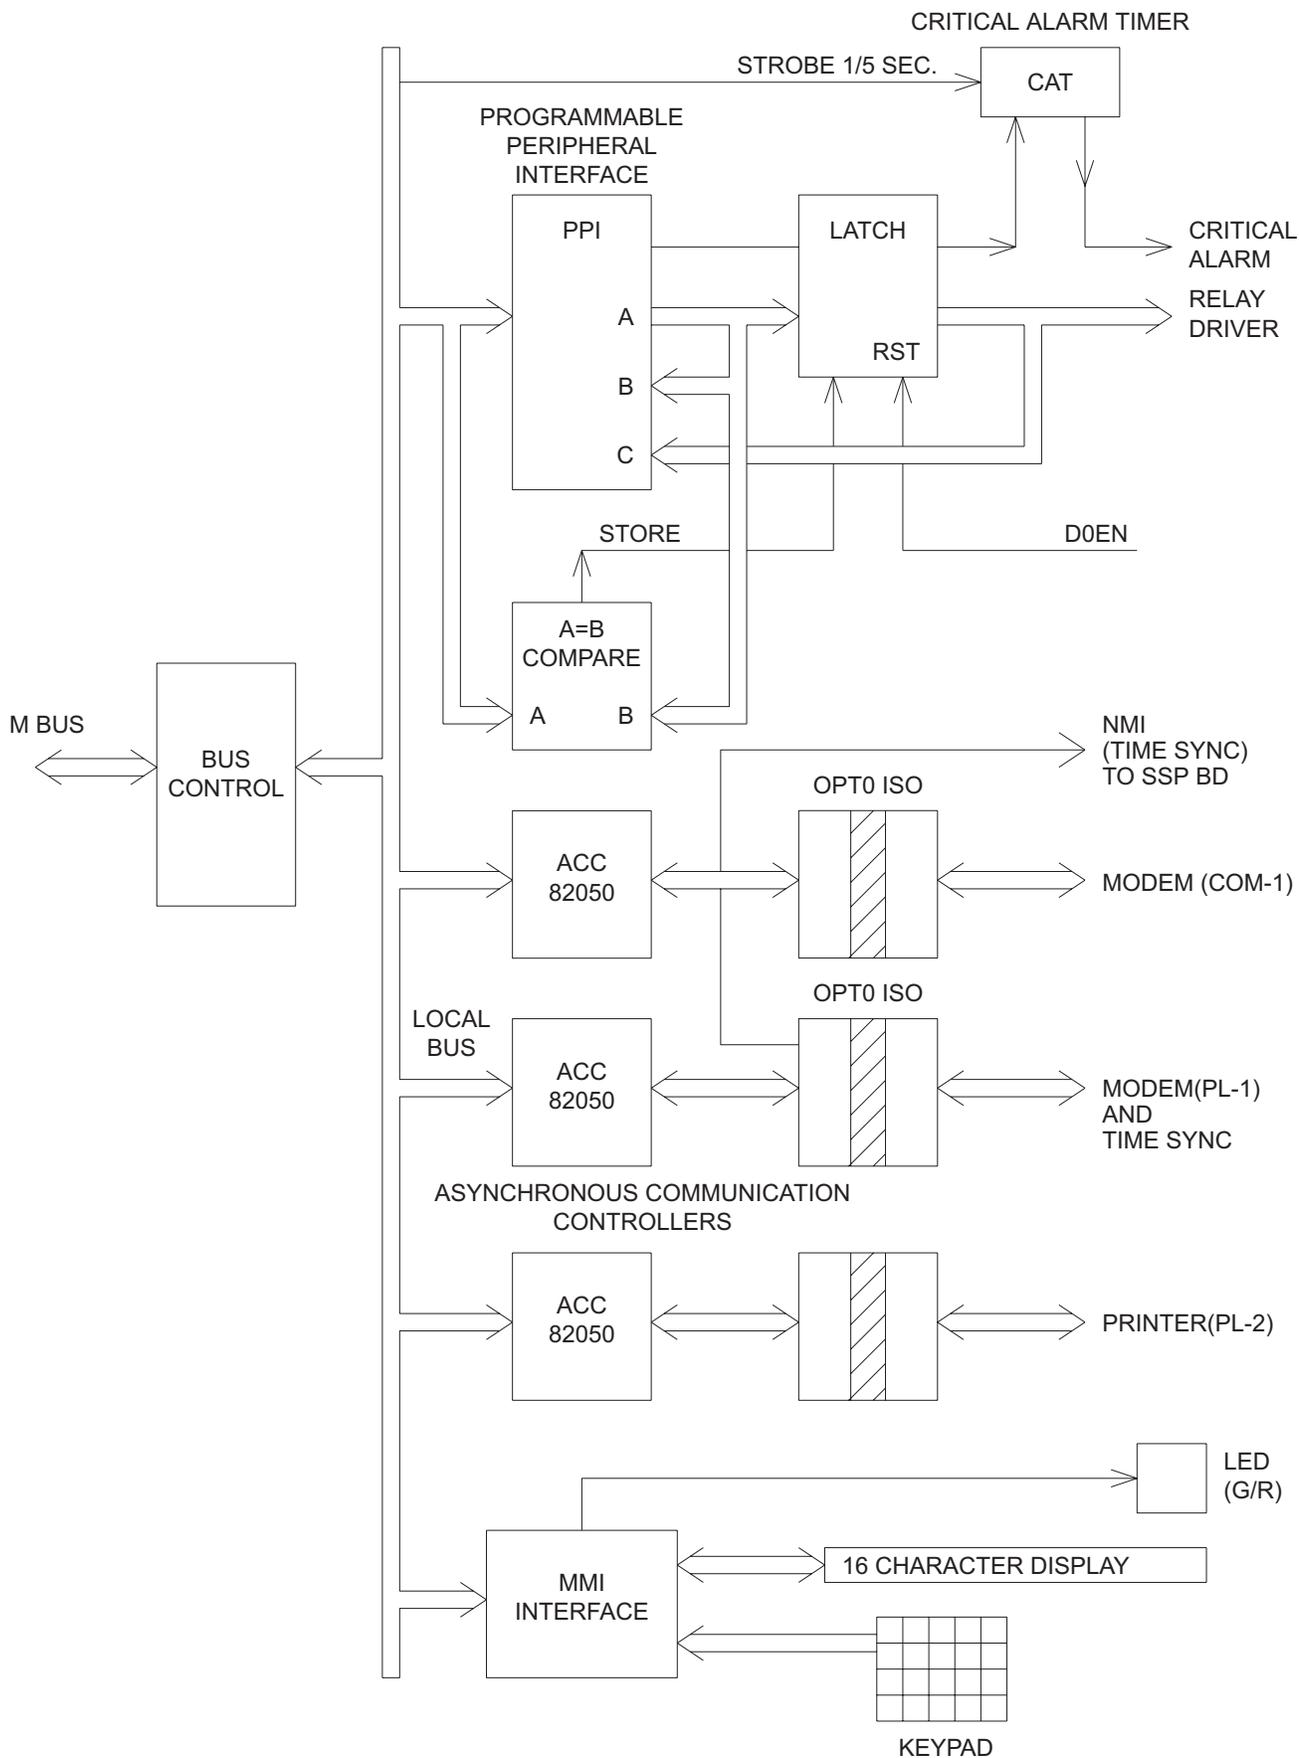

Figure 3-7. (0179C8290 Sh. 2) Block diagram of the MMI and DCI boards in the MMI module.
- The MMI board contains all of the items listed above. Figure 3-7 is the block diagram of the MMI and DCI.